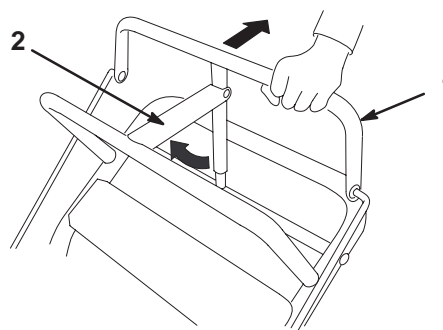

Figure 40
2. Set the parking brake (Fig. 40).